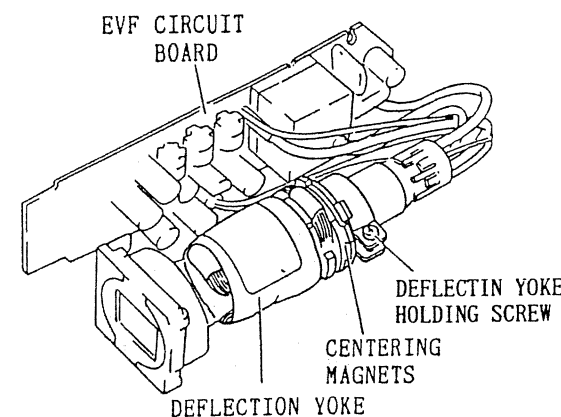

Fig. 4-13
1) Deflection Yoke Position Adjustment (Fig. 4-13)
2) EVF Centring Adjustment (Fig. 4-13)